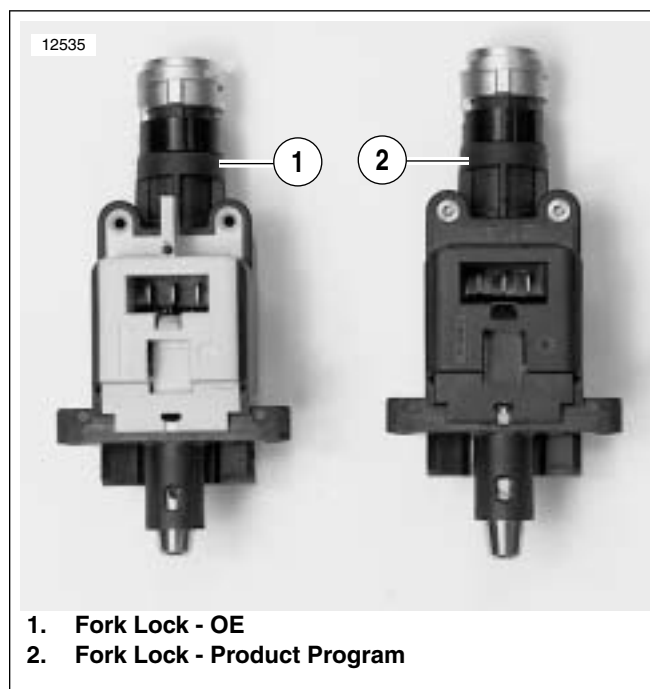

Figure 1. Touring Model Ignition Switch/Fork Lock
See Figure 1. Replace existing OE fork lock (1) with the replacement (2) from the Product Program. Refer to IGNITION/LIGHT KEY SWITCH AND FORK LOCK service procedures in the 2006 Touring Models Service Manual.